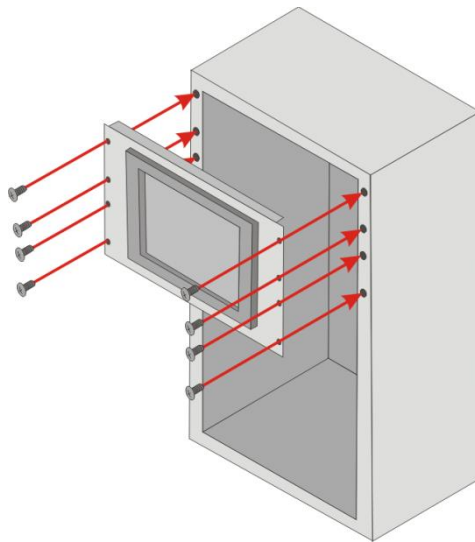

Figure 3-34: Install into a Rack/Cabinet
Step 6: Slide the AURA-xxx-MTL Series with the attached rack/cabinet bracket into a rack or cabinet (**Figure 3-34**).
Step 7: Once the flat panel PC with the attached rack/cabinet bracket has been properly inserted into the rack or cabinet, secure the front of the rack/cabinet bracket to the front of the rack or cabinet (**Figure 3-34**).